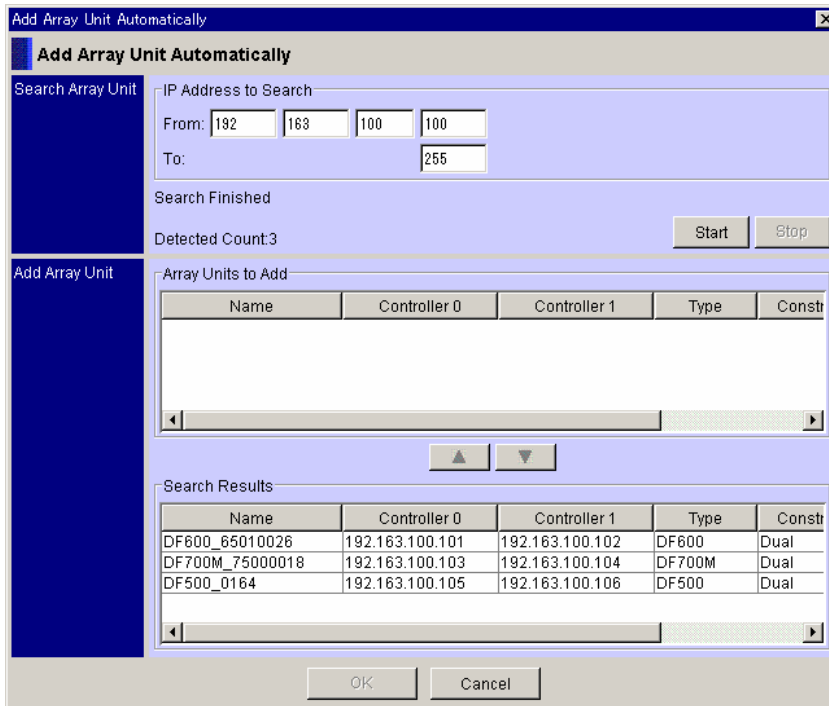

Figure 4.14 Add Array Unit Automatically Window (search results shown)
4. The search results will be displayed once the search is finished (see Figure 4.14). In the **Add Array Unit** window, select the name you want to register and click the **▲** button to move the selected subsystem from the **Search Results** list to the **Array Units to Add** list.